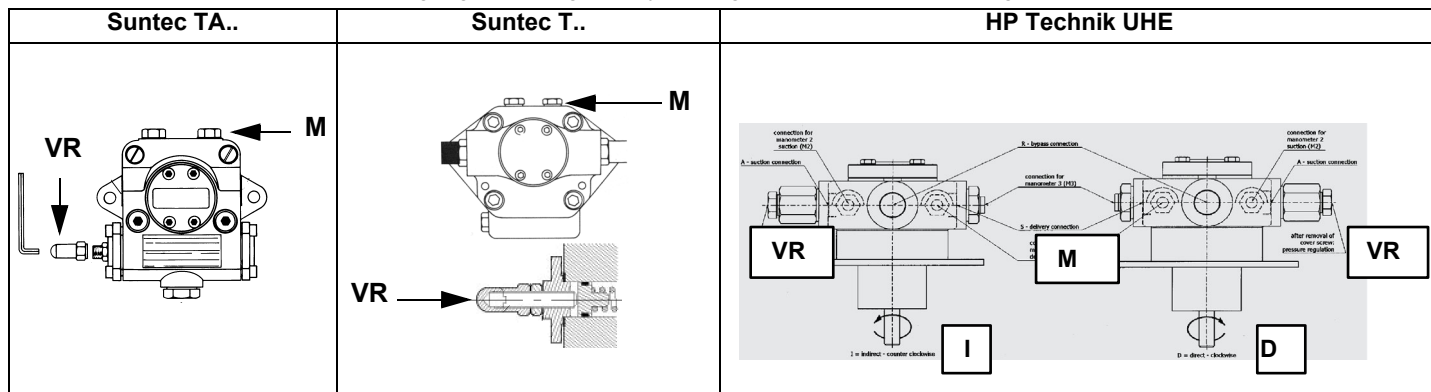
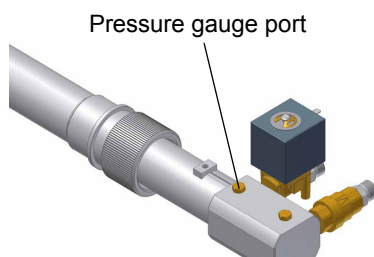

Fig. 11
Fig. 12
- 3 bleed the air from the **M** pressure gauge port (Fig. 11) by loosening the cap without removing it, then release the contactor.
- 9 the nozzle supply pressure is already factory-set and must not be changed. Only if necessary, adjust the supply pressure as follows (see related paragraph); insert a pressure gauge into the port shown on Fig. 12 and act on the pump adjusting screw **VR** (see Fig. 11 and page 18) as to get the nozzle pressure at 20 bar or 25 bar (according to the nozzle model provided: Bergonzo or Fluidics nozzles - see page 28-33).
The position of the indicator in the dial indicates the value of the outlet pressure calculated as a percentage of the full scale of the PS sensor (Fig. 11)